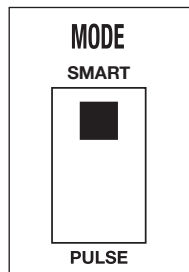

Figure 1: Mode Select
The SmartPlus has a "Mode Select" toggle switch that allows for 2 operation modes. "Pulse" or "Smart" mode can be selected using the toggle switch located on the electronic control board (see Figure 1). A yellow LED indicates which mode is selected. All operation is automatic, no manual timer or temperature setting is required.
7. The SmartPlus is shipped from the factory in "Smart" mode. To switch the pump to "Pulse" mode, remove the 2 electrical box screws and cover. Change the position of the toggle switch on the circuit board to "Pulse" (see Figure 1). Replace the cover and secure with 2 screws.